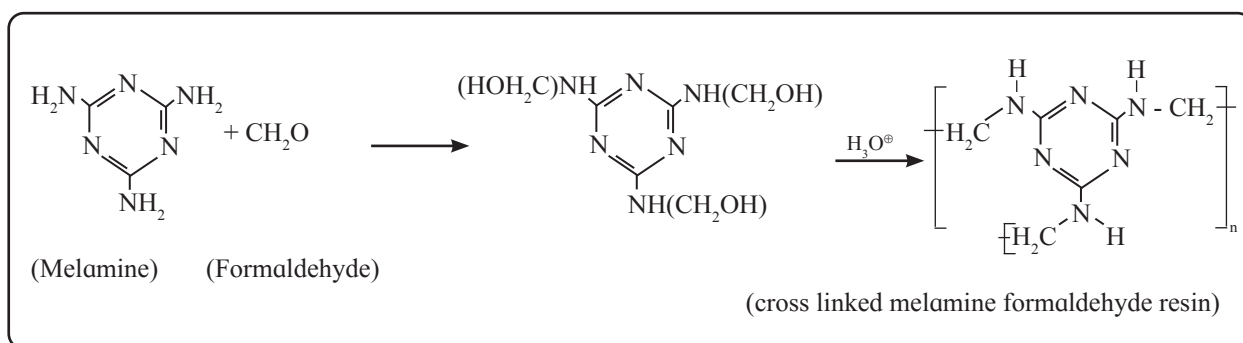

Fig. 15.4 Formation of cross linked melamine formaldehyde resin
b. Melamine-formaldehyde polymer : Decorative table tops like formica and plastic dinner-ware are made from heat and moisture resistant thermosetting plastic called melamine - formaldehyde resin. The reactions are shown in Fig. 15.4. Melamine and formaldehyde undergo condensation polymerisation to give cross linked melamine formaldehyde.